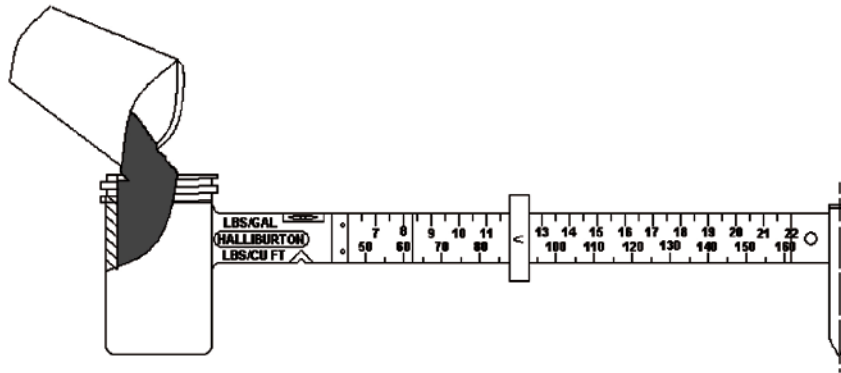

Figure 4-1 Adding fluid to sample cup
1. Fill the sample cup with the fluid (Figure 4-1) to a level slightly below the upper edge of the cup (approximately 1/4 inches).